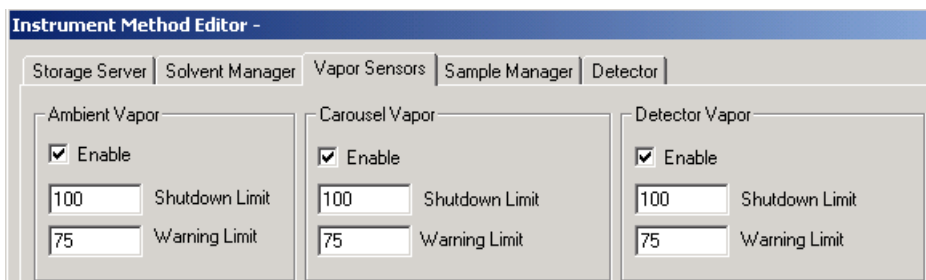

Figure 3-19 Vapor Sensors Page
1. Click the Vapor Sensors tab in the Instrument Method Editor dialog box (Figure 3-19).